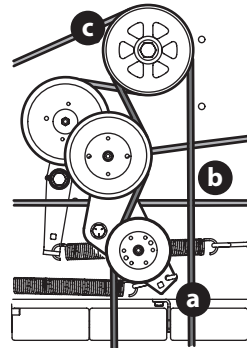

Fig. 49
3. Using a 1/2" drive in the idler pulley bracket (a), turn the wrench towards the right of the mower and slide the PTO belt (b) off the PTO pulley (c) (Fig. 49).